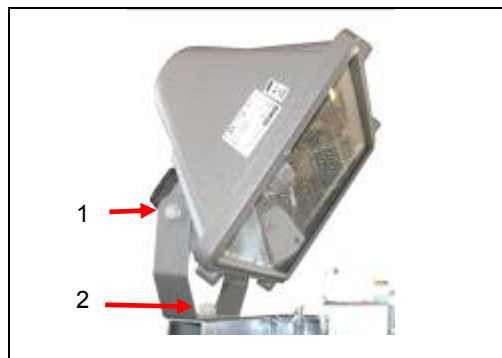

Figure 5.1 – Adjusting the lights
- ❶ Position the lights, tilting them manually and loosening the tightening nuts (fig. 5.1, ref. 1) on the light support bracket.
- ❷ Turn the lights according to the type of lighting desired, by loosening the light support bracket nut (fig. 5.1, ref. 2).